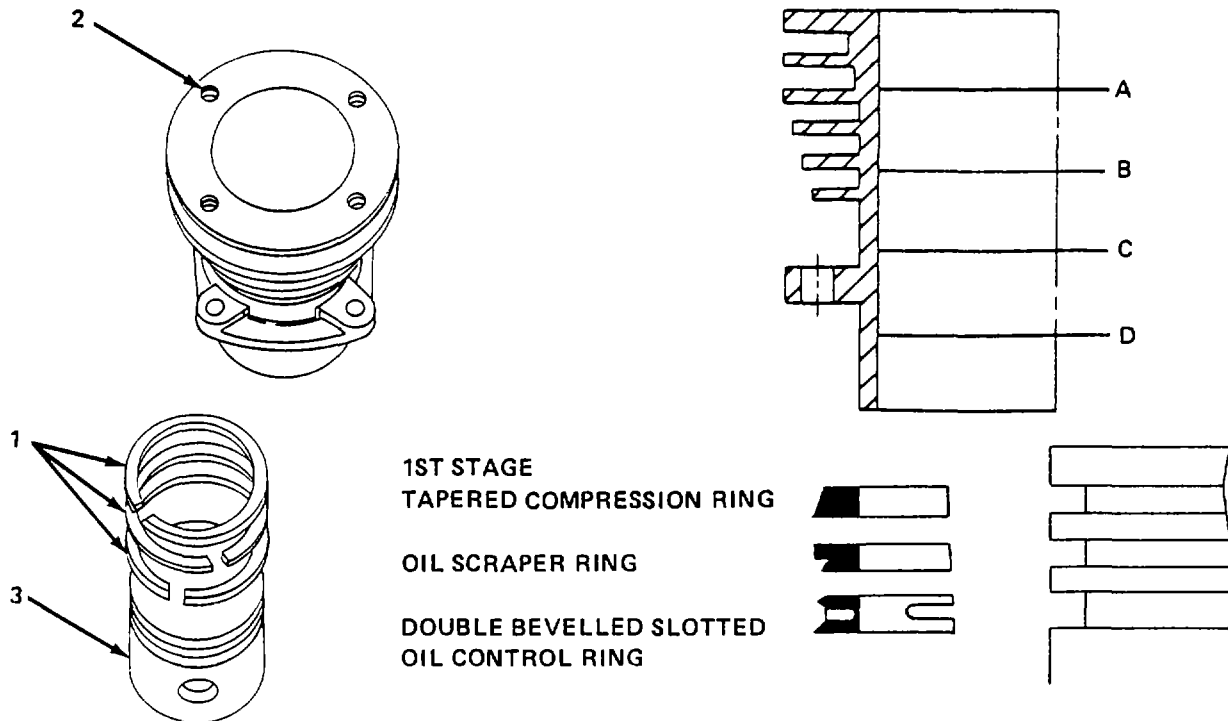

Figure 6-2. 1st Stage Cylinder and Piston, Repair.
- (4) Using circlip pliers, remove two snap rings (6) securing piston pin (7).
- (5) Remove piston pin (7) from piston (4) and connecting rod (8).
- (6) Remove piston (4).
- (7) Position piston (4) over connecting rod (8) and install piston pin (7).
- (8) Using circlip pliers, install two snap rings (6).
- (9) Install four studs (5) on crankcase (3).
- (10) Install gasket (2) on crankcase (3).
- (11) Apply lubricating oil to cylinder walls.
- (12) Position cylinder (1) on piston (4) using ring clamps.
- (13) Slide cylinder down until it seats on gasket (2) on crankcase (3).
b. Repair. (figure 6-2)
- (1) Remove 1st stage cylinder and piston (para. a. above).